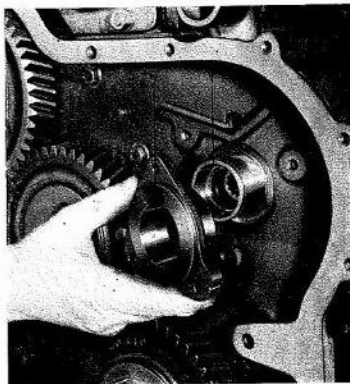

Fig. M.6.
4. The fuel pump drive gear may now be removed from the hub, which may also be withdrawn from the carrier by hand, once the retaining circlip has been removed, See Fig. M.6.